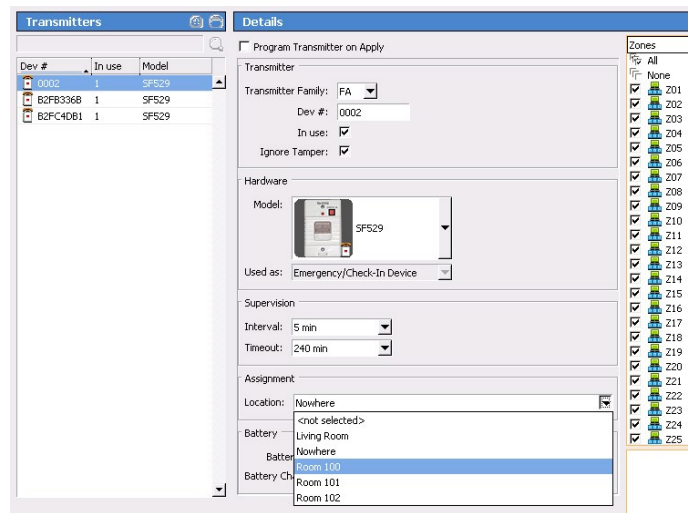

Figure 22: Config Tool Transmitters Page
1. Click **Transmitters** in the page selection pane of the ConfigTool. The transmitters page is shown in Figure 22.